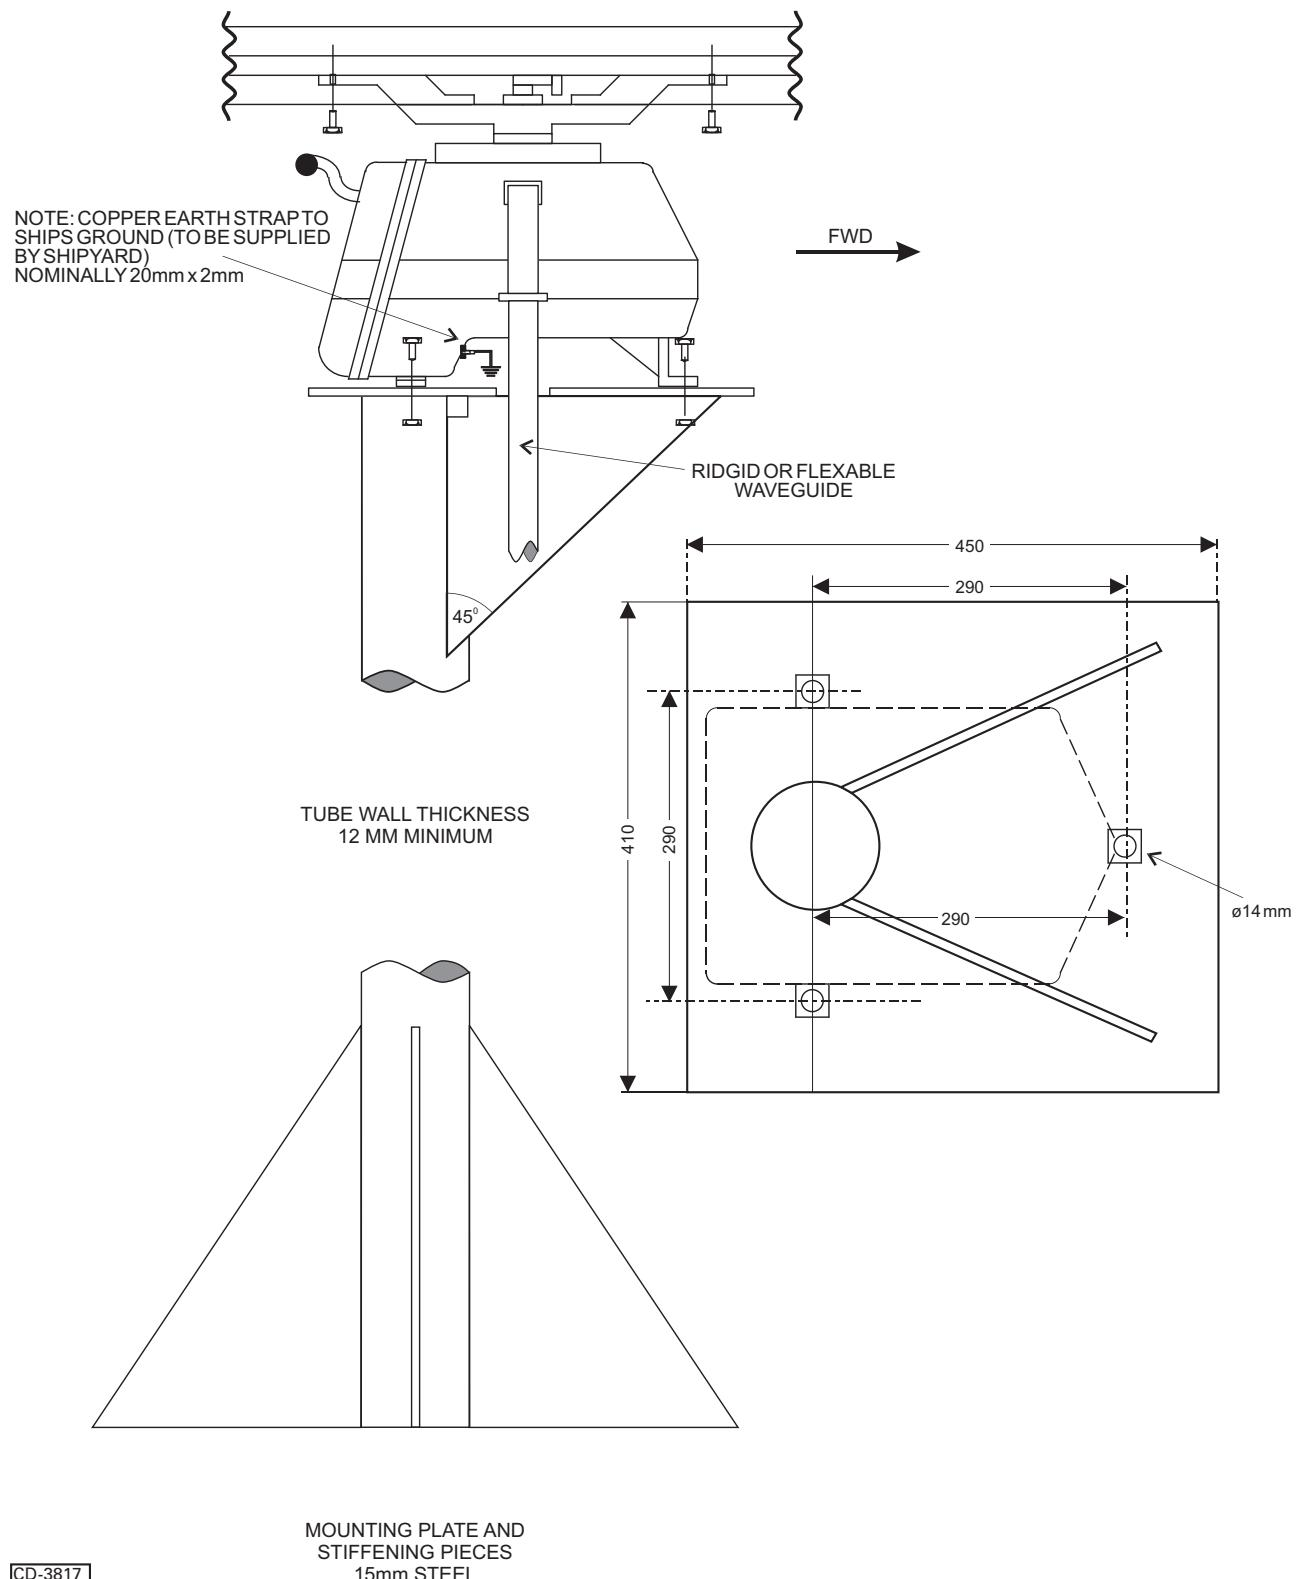

Figure 2f - Turning Unit Mast Mounting
- (4) Remove the protective caps, tapes etc. Ensure the waveguide faces are clean and free from grease. Fit the appropriate 'O' ring. Fit the Antenna array to the Turning Mechanism with the eight bolts, holding it loosely in position. DO NOT TIGHTEN THE BOLTS. Refer to Figure 2f.
- (5) Align the waveguide from the Antenna to the Rotating Joint and fit the four waveguide bolts. Do not force the waveguide to the coupling face. Tighten the waveguide bolts evenly until the mating faces are flush. Torque load the Antenna retaining bolts to 19 to 24 Nm (14-16 lb/ft).
(6) Hoist the Turning Mechanism and Antenna assembly, (ensuring the slings do not foul with the Array), to the mounting plate. DO NOT LIFT BY THE ANTENNA.
(7) Mount the Turning Unit facing forward (removable cover facing aft). Fit the retaining bolts and torque load to 75 kg/m (50 lb/ft) then gain access to the interior by removing the rear cover.